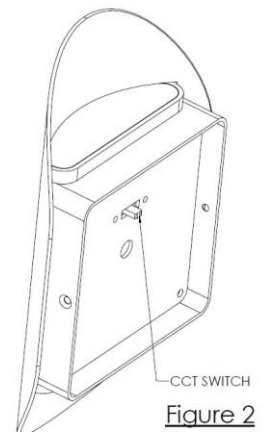

Figure 2
- A. CCT switch is located on backside of fixture per Figure 2. Adjust switch to desired temperature of 2700K, 3000K, 3500K, 4000K, or 5000K as seen below. Note: Fixture is preset to 3000K from factory.